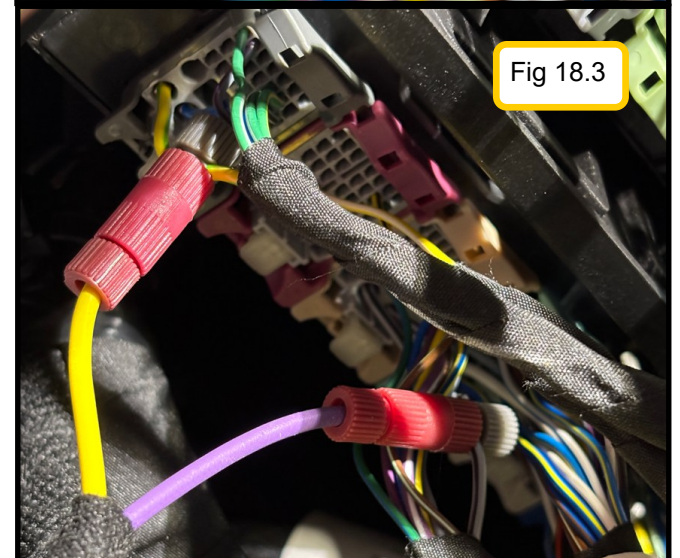

Fig 18.3
4. Install the Posi-Taps following the instructions on page 11 using harness 74341 tapping wires. (Fig 18.3)